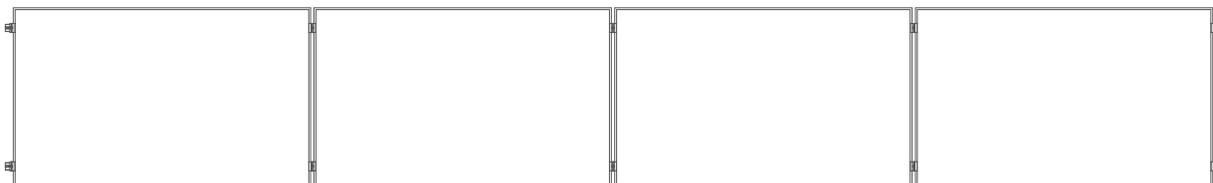
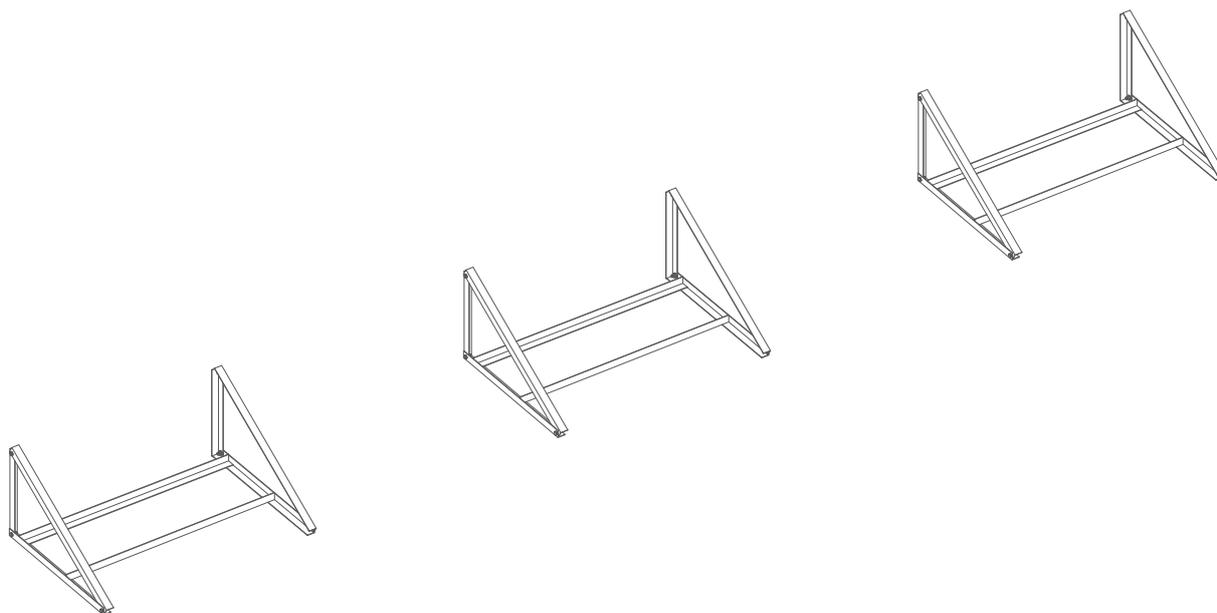

Fig. 1. plan for the arrangement of the modules
Fig. 2. arrangement of the mounting triangles
- 1 Before you start mounting, you should determine the plan for the arrangement of the modules (Fig. 1) and determine the mounting triangulates (Fig. 2).